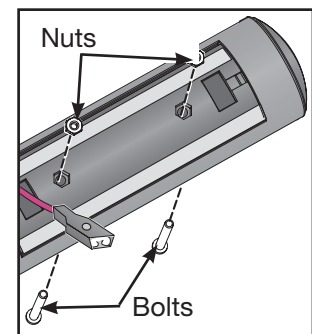

Figure 33
- E. While being careful not to overtighten and crack the housing, place the nuts in their holes and secure them with the bolts. **NOTE:** *It is easier to place the nuts on the top and the bolts from the bottom.* See Figure 33.